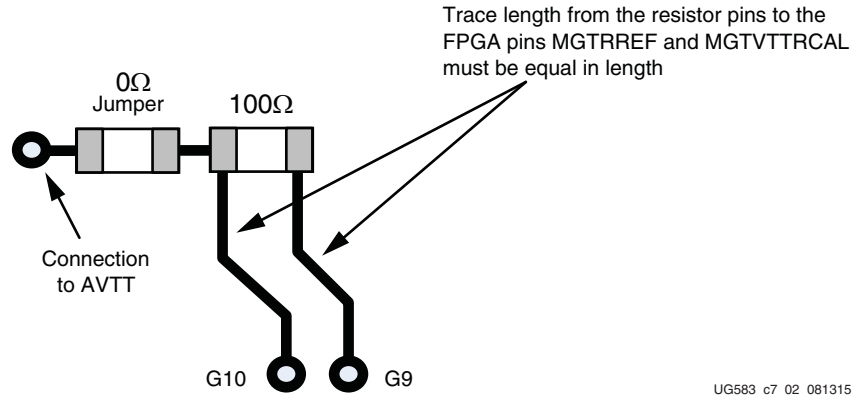

Figure 7-2: Schematic for Reserving Future RCAL and RREF Pins for F1924
- Two ground pins (G9 and G10) in the UltraScale KU085/115 F1924 device later give way to becoming RREF (G9) and RCAL (G10) pins in the UltraScale+ VU11P F1924 device. The recommended way to design for this case would be by utilizing the schematic shown in Figure 7-2 and Table 7-5. When using the KU085/115 F1924, the G9 and G10 pins are grounded, and the resistors can be left unpopulated. When the RCAL and RREF pins are present when using the VU11P, both resistors should be populated.